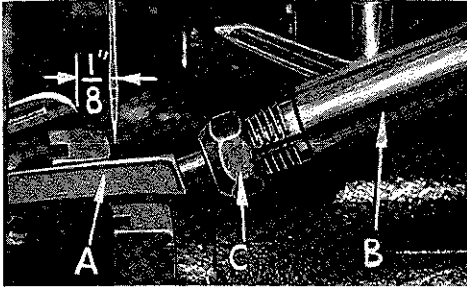
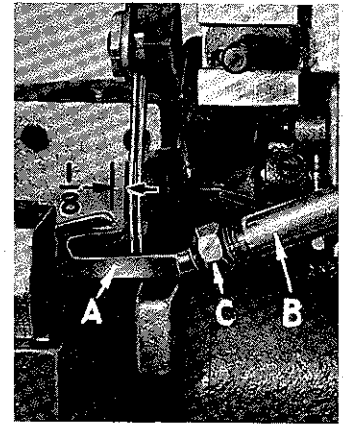

Fig. 5
Fig. 5A
At this point, insert lower looper (A, Fig. 5) for Style 39500 JK or lower spreader (A, Fig. 5A) for Style 39500 JL, into bar (B). With lower looper or spreader at the left end of its stroke, set looper point  $\frac{1}{8}$  inch from center of needle (Fig. 5) or set lower spreader  $\frac{1}{8}$  inch to the left of the center-line of left needle (Fig. 5A), using looper gauge No. 21225 G- $\frac{1}{8}$ . Do not have lower looper or spreader deflecting needle. Tighten nut (C). Now assemble differential (front) feed dog.